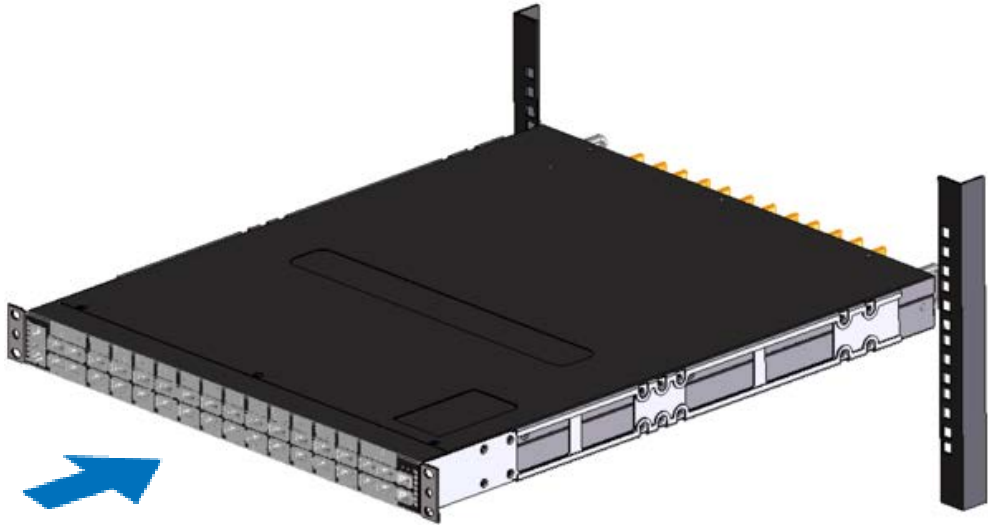

Figure 21. Aligning the Switch Unit to the Front Rack Poles
4. Align the switch unit to the front rack poles from the front of the rack as shown in Figure 21.